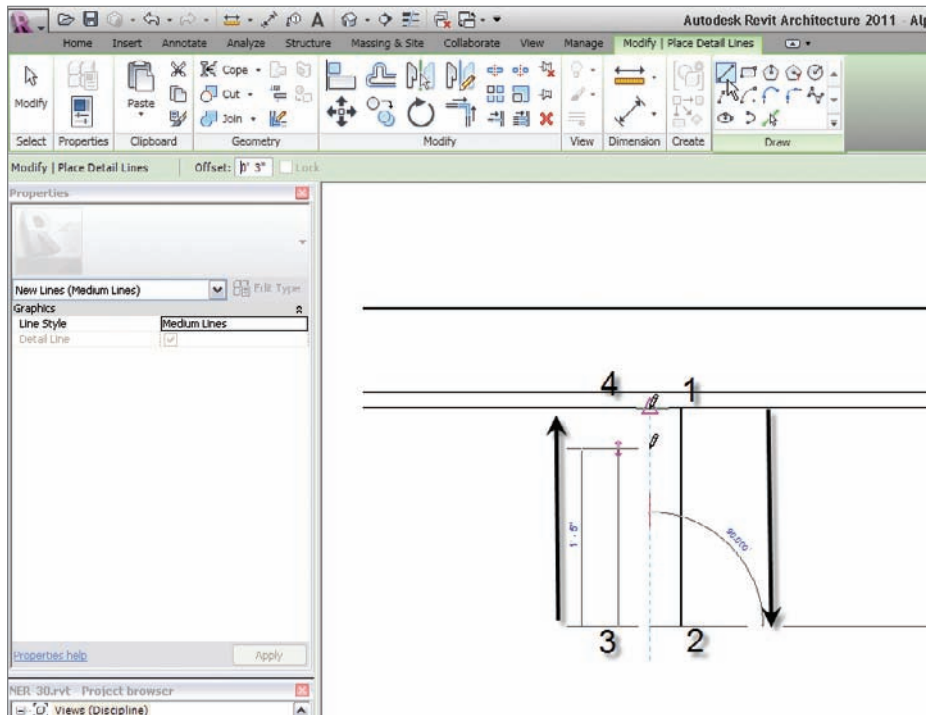

FIGURE 12.63 By setting an offset of 3", you can draw two lines using a common centerline.
11. With the Detail Line command still running, click the Line button and set the Offset value to 3", as shown in Figure 12.63.
13. For the first point of the line, pick the midpoint of the bottom line, as shown in Figure 12.63.
14. For the second point of the line, pick a point about 1'-9", straight down as shown in Figure 12.63. (This draws a line offset 3" to the right from the center of the line above.)
15. To draw the other line, pick a point aligned with point 2 (shown as point 3 in Figure 12.63) and the midpoint of the bottom line.
16. Pick a point perpendicular to the bottom line (see Figure 12.63).